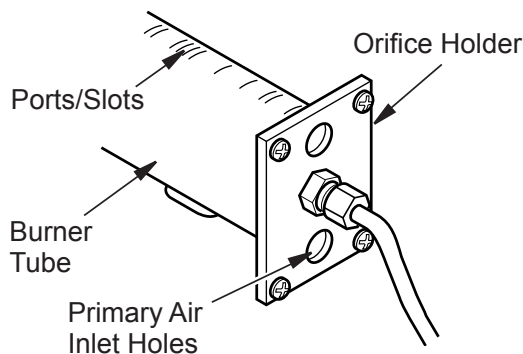

Figure 49 - Orifice Holder On Outlet Burner Tube
2. Inspect burner, pilot and primary air inlet holes on orifice holder for dust and dirt (see **Figure 49**).